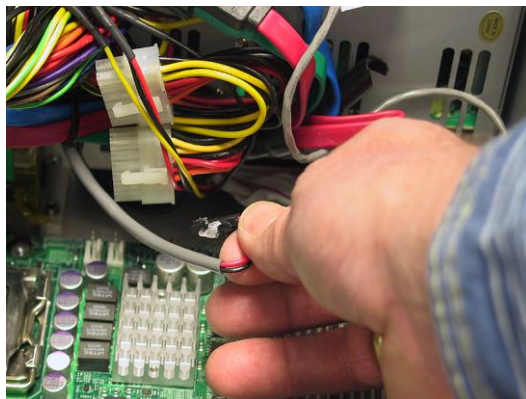

**Figure 4-103**
- 6) Use a Phillips #1 screwdriver to remove the three 4-40 screws holding the wire harness protector plate (Figure 4-103), then gently remove the protector plate to expose the right speaker cables (Figure 4-104).